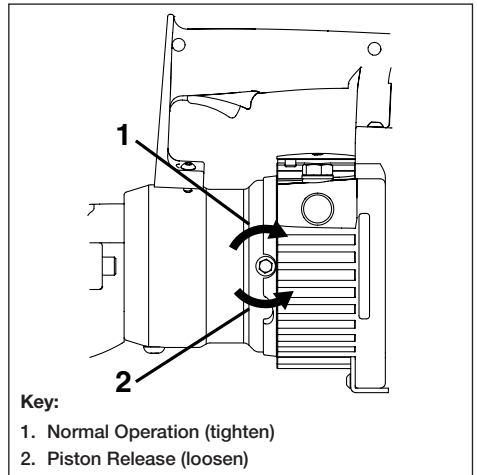

Figure 4, Piston Release Screw
Before using the cutter, check that the piston release screw is turned fully clockwise. Use an 8 mm Allen wrench. See Figure 4.
3. Be sure that the piston release screw is turned fully clockwise. See Figure 4.